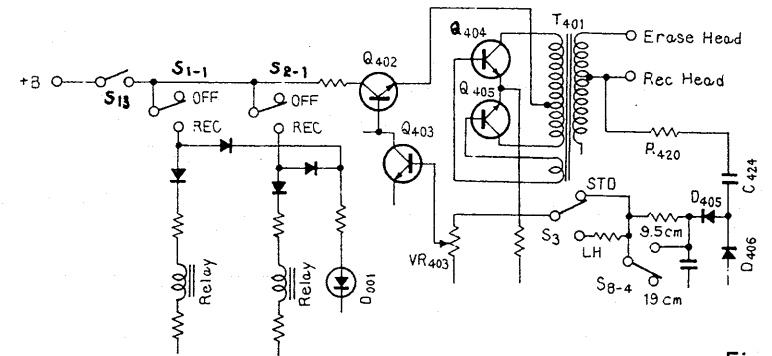

Fig. 3
7. When operating the REC switches voltage +B is fed to the oscillator circuit and the current flows simultaneously to the light-emitting diode (D001) through the relays and recording is indicated (Fig. 3).
When operating the REC switches voltage +B is fed to the oscillator circuit and the current flows simultaneously to the light-emitting diode (D001) through the relays and recording is indicated (Fig. 3).
#### 3.3 OSCILLATOR CIRCUIT (Fig. 3)